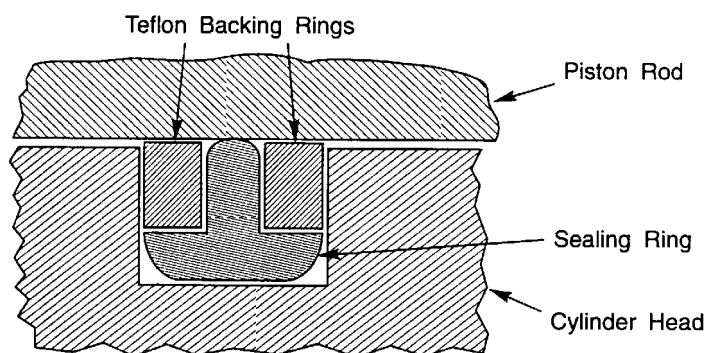

Figure 1 – Piston Rod Seal Placement
1. Install the piston rod sealing ring and Teflon backing rings as shown in Figure 1.